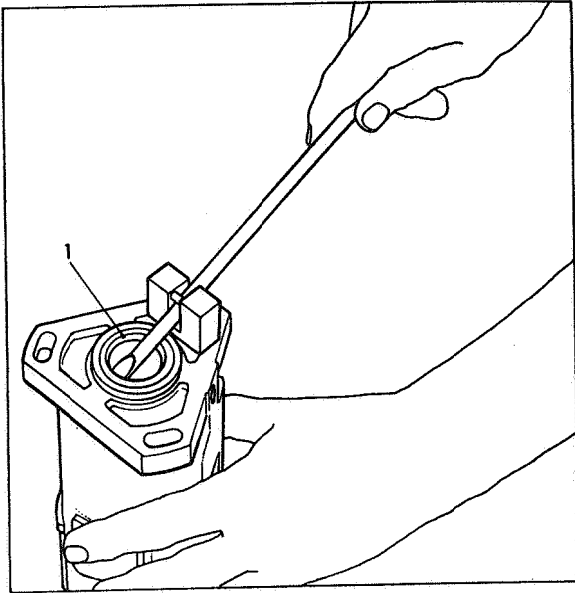

Fig 45 *Removing drive hub seal*
Remove pump from fixture. Carefully note the way the drive hub seals are inserted then extract and discard drive hub seal (1) as shown in Fig 45 using Tool Part No 7044-893. Remove housing circlip with circlip pliers. Extract and discard second drive hub seal, again using Tool Part No 7044-893.